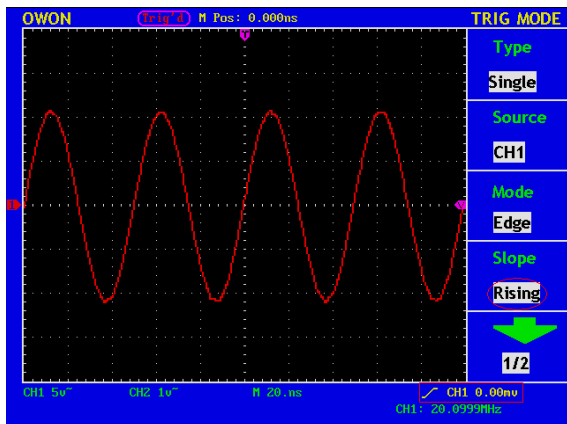

Fig. 45 Edge trigger (Rising Wave, the first menu)
- 5、 Press "F4" to choose slope as "Rising". Display as Fig.45